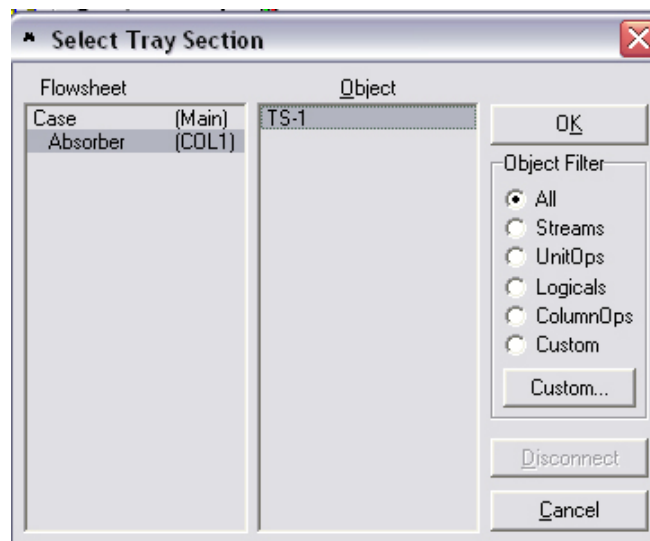

Figure 11-7
- Click on the **Select TS...** button. Once you select the **Select TS...** button, a window should pop up as shown in Figure 11-7. Make all the selection as shown and then click **OK**.